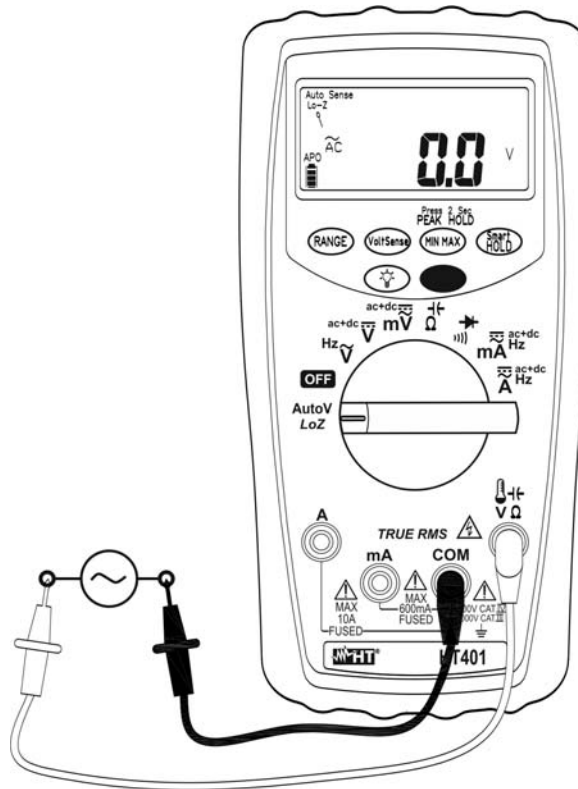

Fig. 4: AC voltage with low impedance (LoZ)
2. Insert the red cable into input lead **VΩ** and the black cable into input lead **COM** (see Fig. 4)